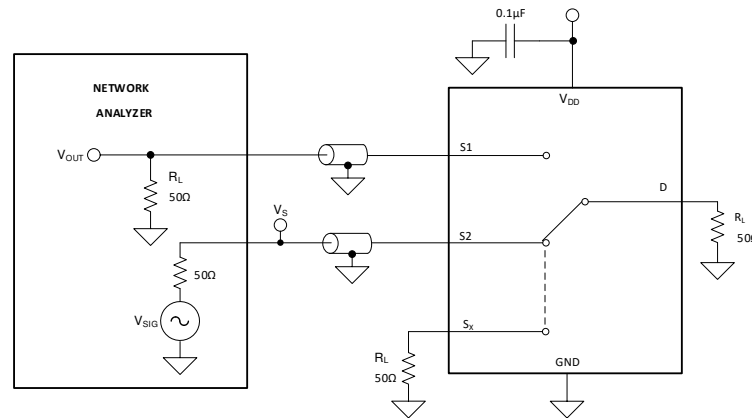

图 7-9. Channel-to-Channel Crosstalk Measurement Setup
Crosstalk is defined as the ratio of the signal at the drain pin (D) of a different channel, when a signal is applied at the source pin (S_x) of an on-channel. 图 7-9 shows the setup used to measure, and the equation used to compute crosstalk.